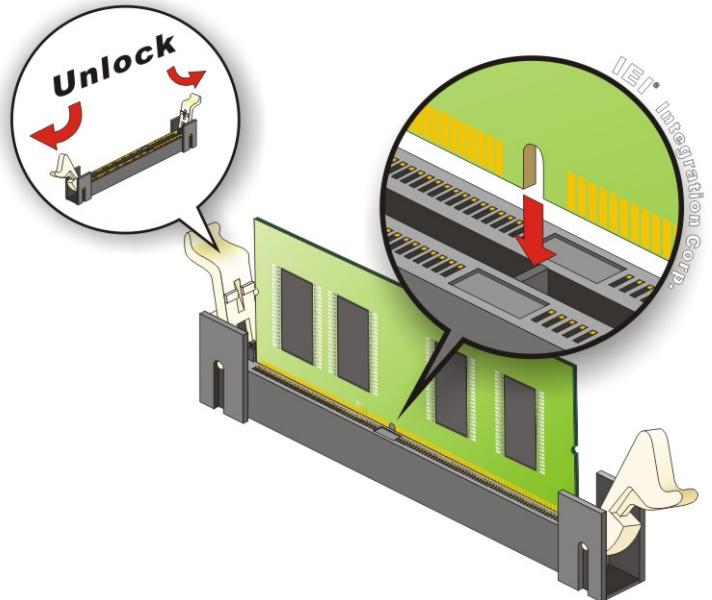

Figure 4-6: SO-DIMM Installation (DDR4)
To install a SO-DIMM, please follow the steps below and refer to Figure 4-6.
Step 1: Open the SO-DIMM socket handles. Open the two handles outwards as far as they can. See Figure 4-6.
Step 2: Align the SO-DIMM with the socket. Align the SO-DIMM so the notch on the memory lines up with the notch on the memory socket. See Figure 4-6.
Step 3: Insert the SO-DIMM. Once aligned, press down until the SO-DIMM is properly seated. Clip the two handles into place. See Figure 4-6.